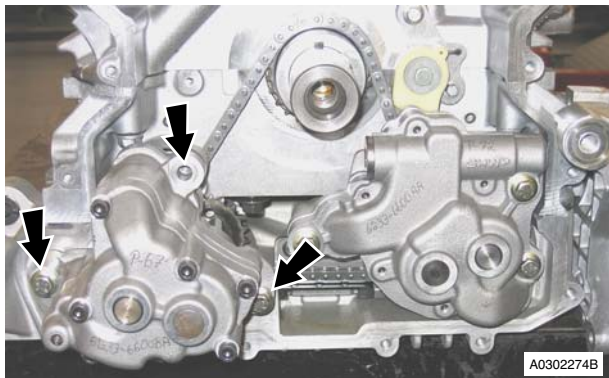

Figure 3
- Remove bolts (x3) securing oil scavenge pump to sump (see Figure 3).